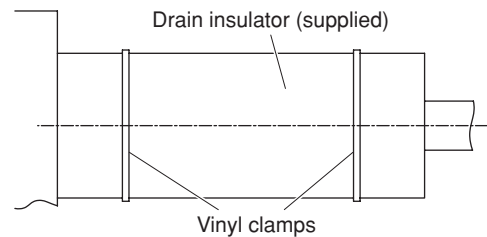

Fig. 3-89b
(2) After connecting the drain piping securely, wrap the supplied packing and drain pipe insulator around the pipe, then secure it with the supplied vinyl clamps. (Fig. 3-89b)